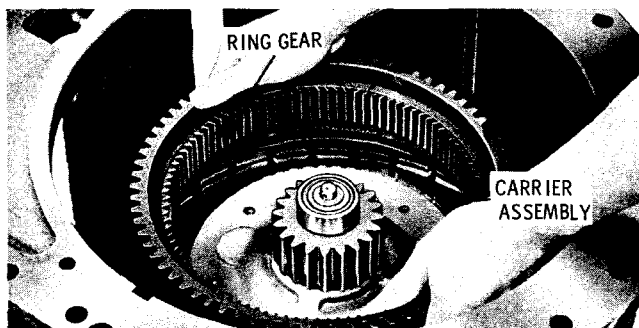

Fig. 7-9. Installing intermediate-range ring gear S1656
(9) Install the intermediate-range ring gear, with the shorter counterbore upward (toward the rear of the transmission), onto the intermediate-range planetary carrier assembly (fig. 7-9).